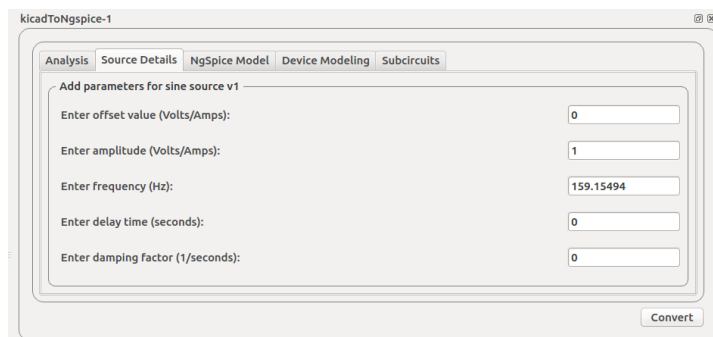

Figure 12.3: Source details: Low pass filter
3. The source details are given as in Fig. 12.3. The generated KiCad netlist is then converted to ngspice compatible netlist.